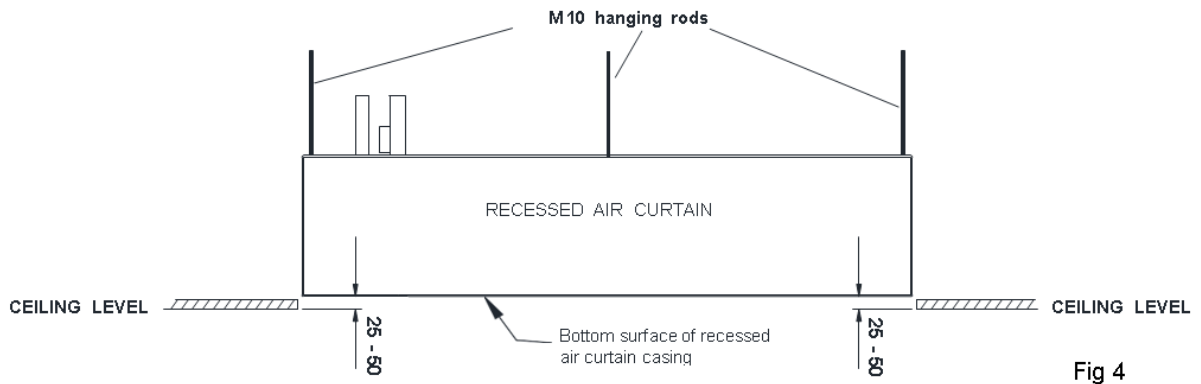

Fig 4
Step 3 If you are installing model T1500R, fit a 5th M10 threaded rod into the hanging point in the middle of the unit. For model T2000R, fit 5th and 6th threaded rods, see Appendices 1 and Fig 4.
Step 5 Adjust the height of the unit on its hanging rods so the bottom surface of the casing goes between 25-50mm up into the ceiling as shown in Fig 4. Ensure the unit is level.